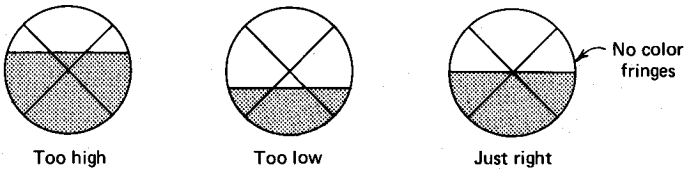

Fig. 104 Your sample through the lens of the refractor.
5. You are looking for a split optical field of light and dark (Fig. 104). This may not be very distinct. You may have to raise or lower the light source and scan the sample a few times.